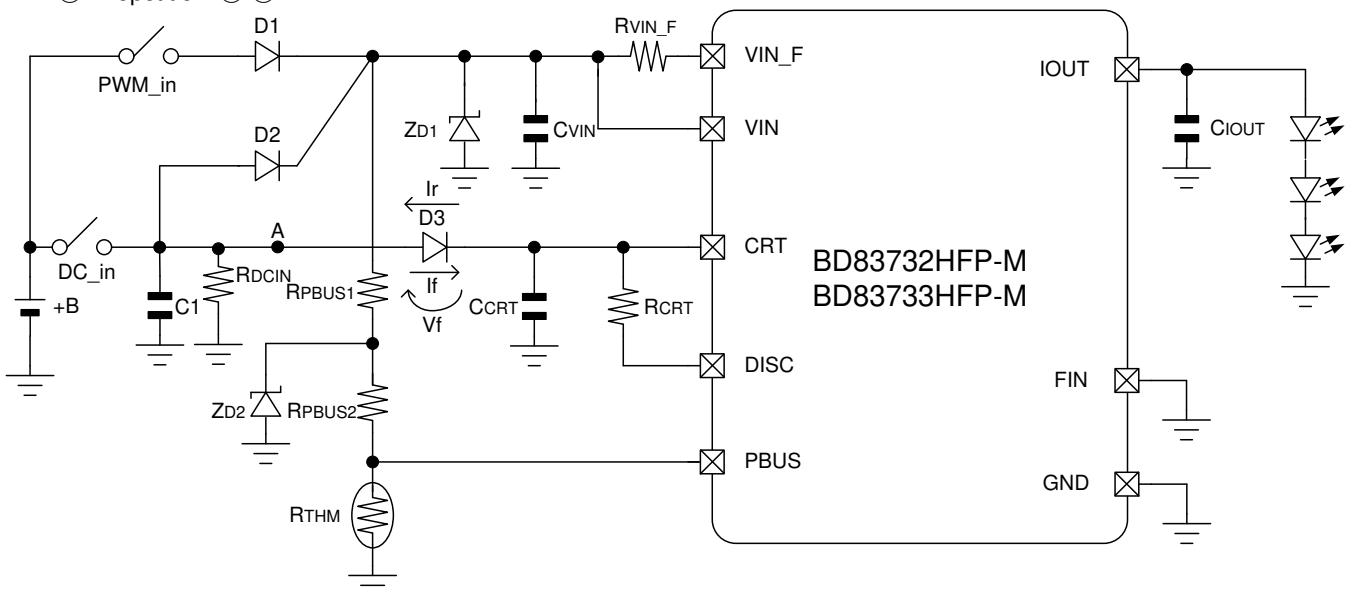

Figure 16. About the mechanism of deviation of CRT start-up / fall time due to the reverse connection prevention diode
In case you apply voltage the CRT over the reverse protection diode (D3) as the figure below ( Figure 16), there is a possibility that the CRT rise time and fall time will deviate from the settings due to reverse current of diode (D3) affecting charge and discharge current to capacitance(C3). Reverse current  $I_r$  is getting high value with high temperatures, so the diode recommended by ROHM or a diode with reverse current characteristics below max  $1\mu A$  needs to be considered. Besides, since reverse current causes also in the recommended diode, **a resistor of about  $1k\Omega$  needs to be connected between the A-point and GND**, so that voltage in the A-point doesn't rise.
- ① During the PWM dimming operation mode, the A-point on Figure.16 becomes Hi-Z
- ② Reverse current  $I_r$  of D2 and D3 goes to the A-point